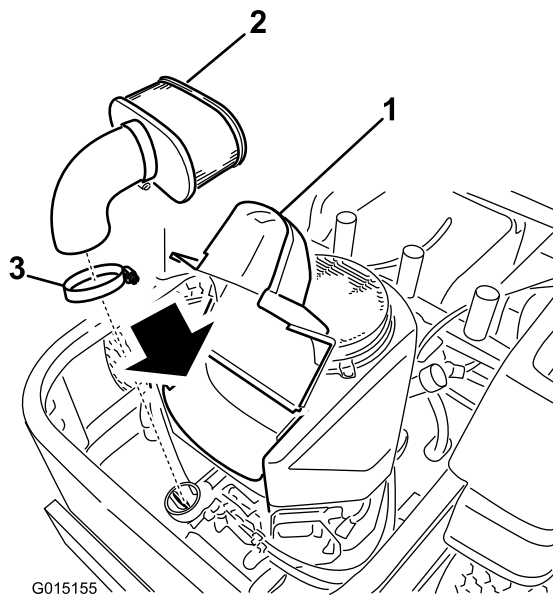

Figure 35
3. Clean around the air cleaner cover to prevent dirt from getting into the engine and causing damage. Lift the cover and remove the hose clamp securing the air cleaner assembly to the engine (Figure 35).
4. Loosen the hose clamp and remove the paper element (Figure 35).